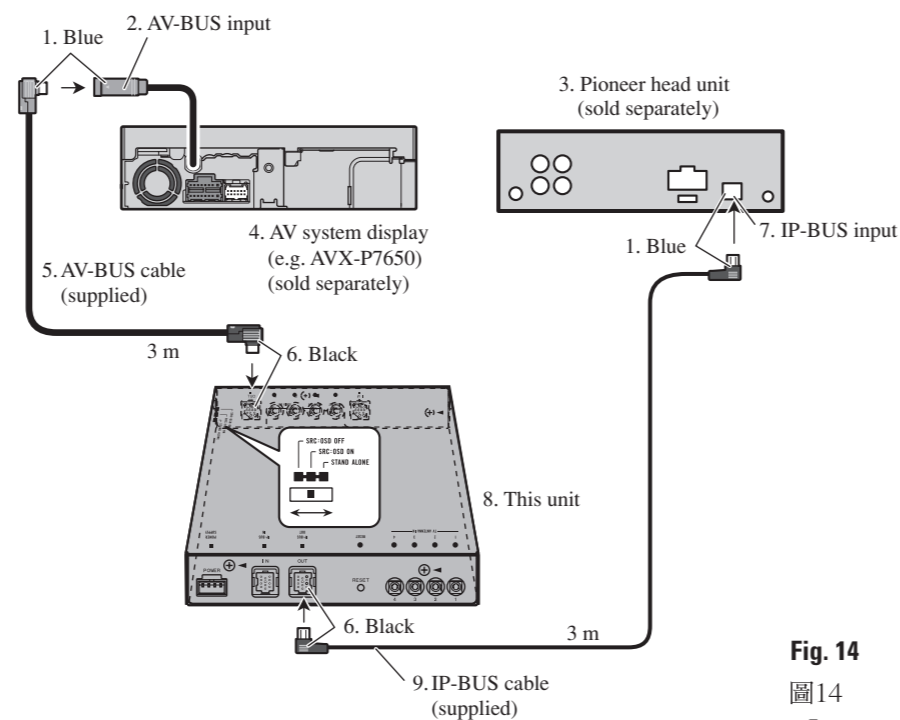

Fig. 14
■ **When using this unit as "SRC : OSD ON" mode (Fig. 14)**